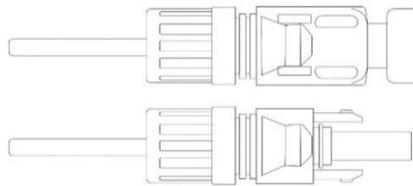

Figure 2.12 Stylus inserted into the top of the connector
3. Insert the Contact pin into the top of the connector and screw the cover nut to the top of the connector. figure 2.12 .